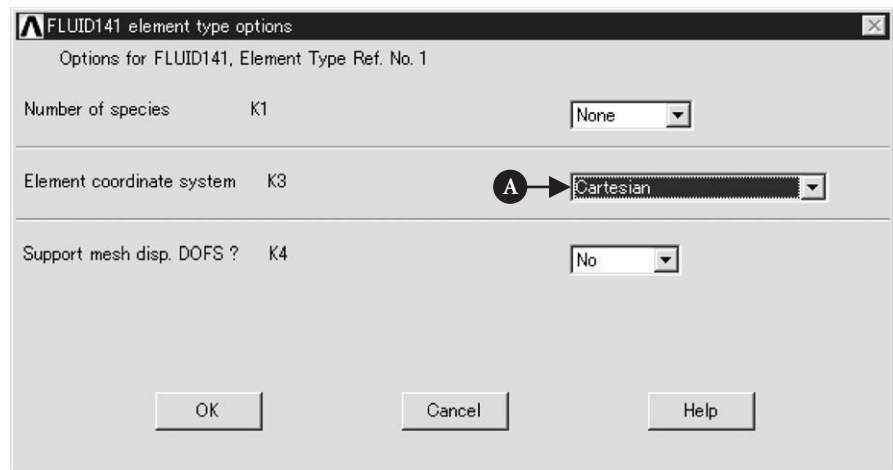

Figure 5.43 Window of FLUID141 element type options.
- (1) Click **add** and then the window **Library of Element Types** opens.
- (2) Select **FLOTRAN CFD-2D FLOTRAN 141**. Click **OK** button.
- (3) Click **Options** button in the window **Element Types**.
- (4) The window **FLUID141 element type options** as shown in Figure 5.43 opens. Select [A] **Cartesian** in the box of **Element coordinate system** and click **OK** button. Finally click **Close** button in the window **Element Types**.